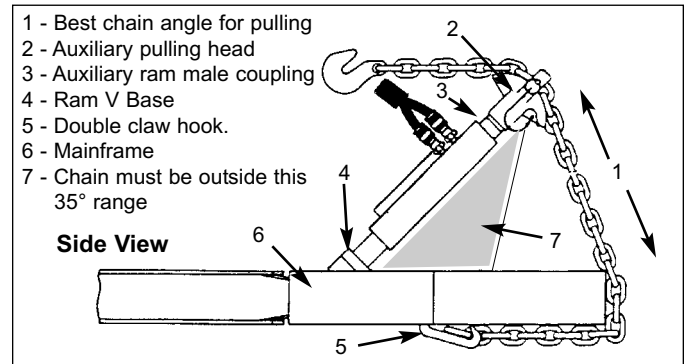

Figure 7
LATERAL PULLS: (Figures 7 - 11, pages 3 - 4)
2. Secure v-base, male coupling and auxiliary pulling head to 6 inch (150 mm) auxiliary ram. (See Figure 7.)
1. To avoid damage to auxiliary ram from side loading, assemble components as shown in Figure 7. Auxiliary pulling head must be positioned inward from outer edge of mainframe.
CAUTION: Always attach v-base to piston end of ram. (See Figures 7 and 8.) DO NOT add extension tubing to piston end of ram.